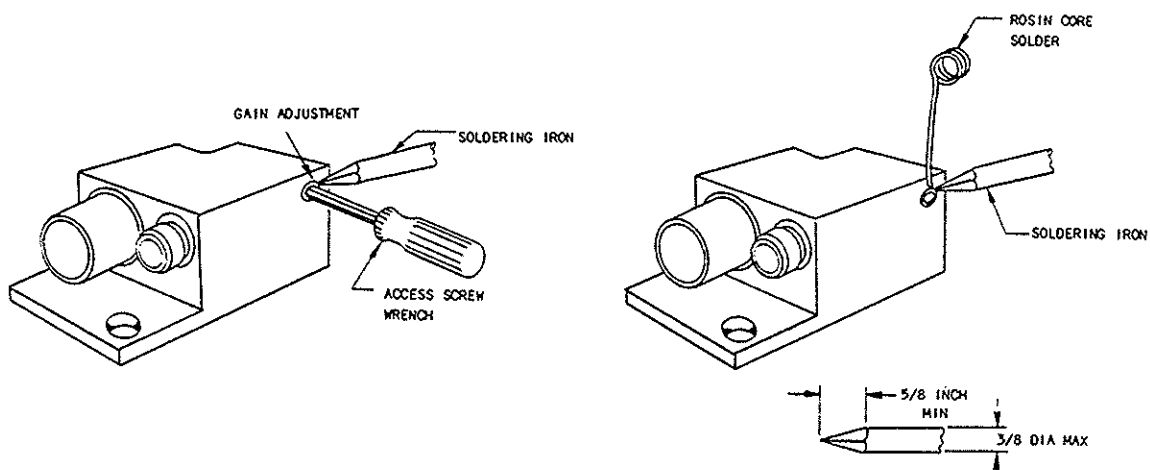

Figure 4-3. Gain Adjust For Charge Amplifiers Without DC-to-DC Converters.
- d. Insert Allen wrench (with insulated handle) in access screw to be removed (see appropriate Figure 4-3 or 4-4), and place soldering iron adjacent to access screw as shown in the diagram.
- e. Apply a small amount of rosin core solder 63-37 to recessed area around access screw to form a solder seal. See Figure 4-3 or 4-4 and use figure appropriate to charge amplifier.